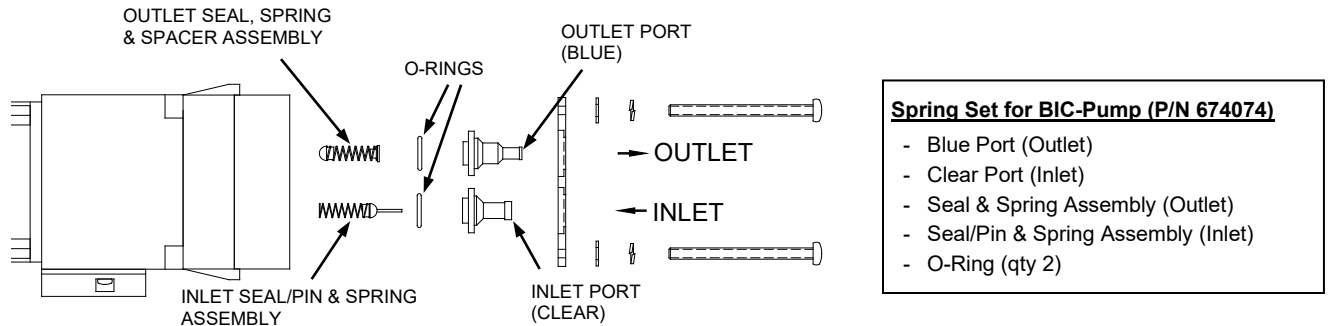

Figure 17 - Acid Pump Exploded View
58. Rebuild the acid pump assembly using parts in the Spring Set for BIC-Pump (P/N 674074) included in the kit. Refer to Figure 17 for the correct parts for the acid pump.